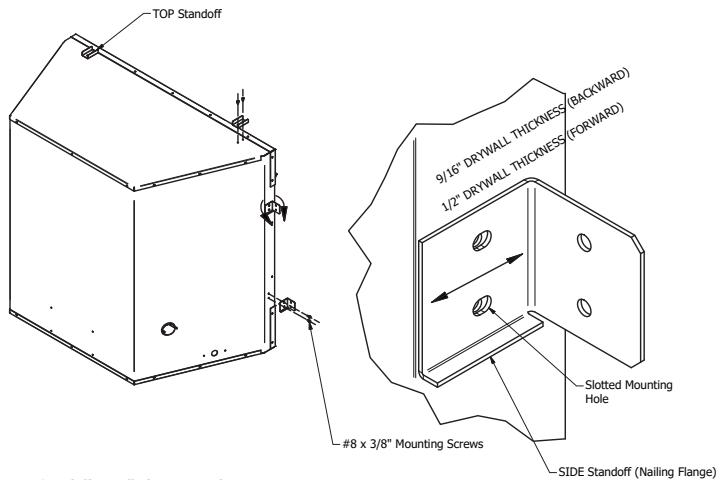

Figure 9 - Mounting Standoff Brackets
4. Anchor firebox to the side framing members using 8d nails or other suitable fasteners. Figure 9.